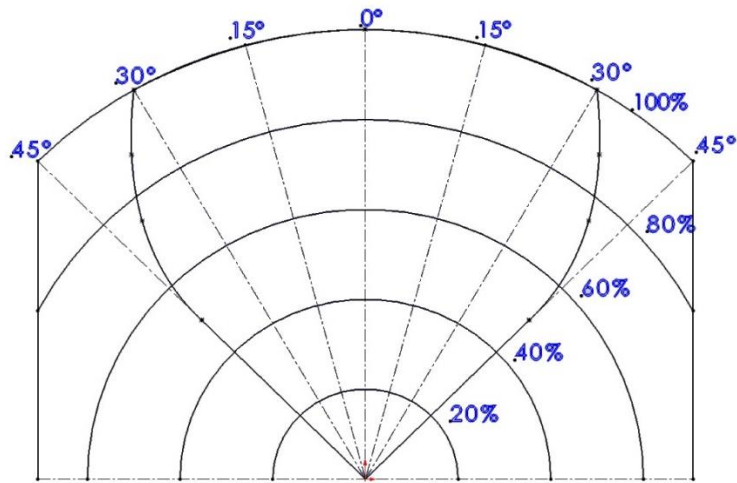
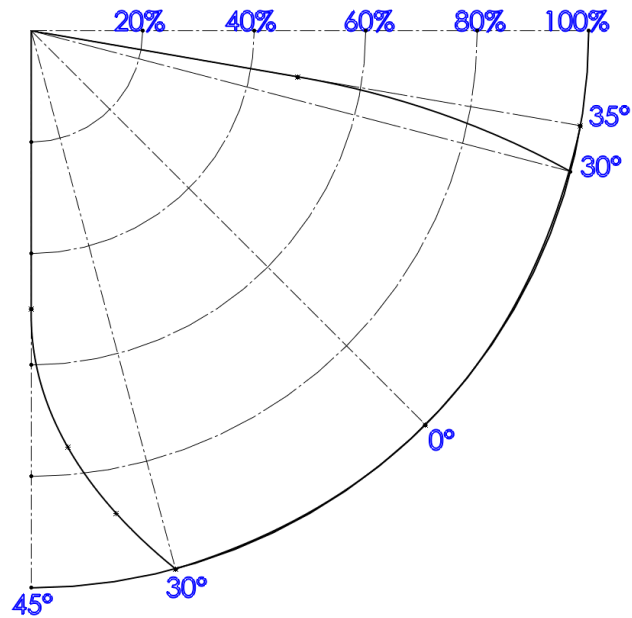

FIGURE 11 - HORIZONTAL FIELD OF VIEW, 90°.
FIGURE 12 - VERTICAL FIELD OF VIEW, 80°.
-  The field of view of the detectors (See Figure 11 and Figure 12).